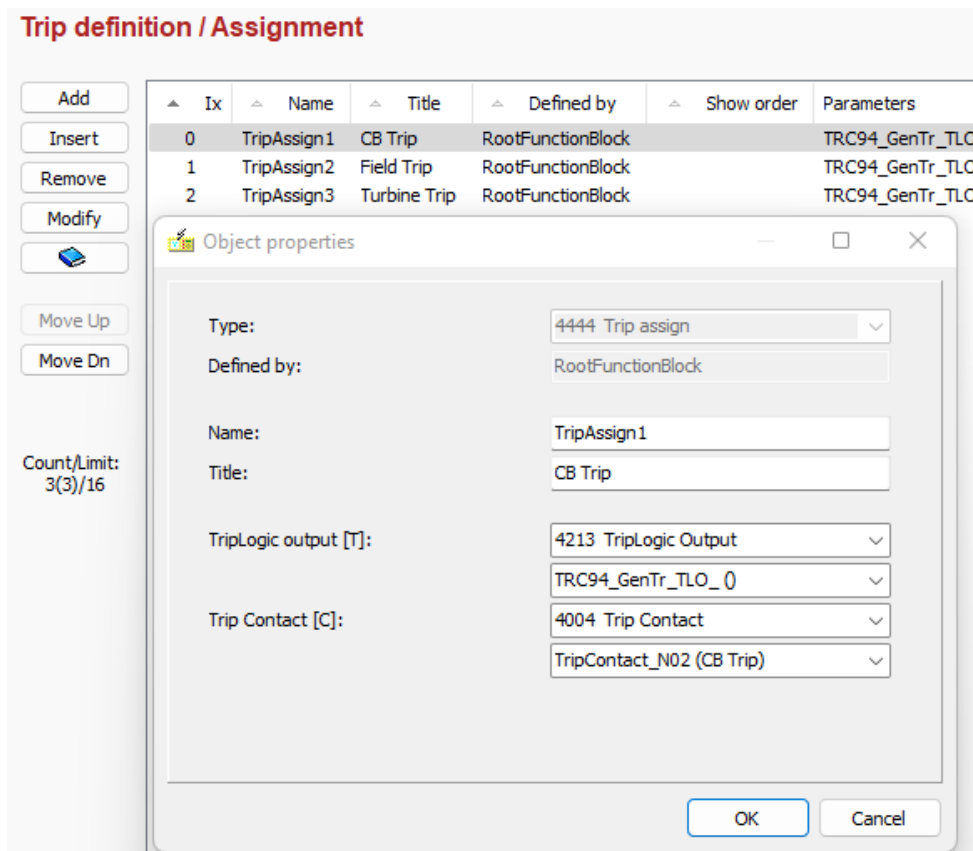

Figure 0-29 The "Object property" window for Trip definition / Assignment
- active buttons. In this case, the data input window shown in Figure 0-29 is opened.